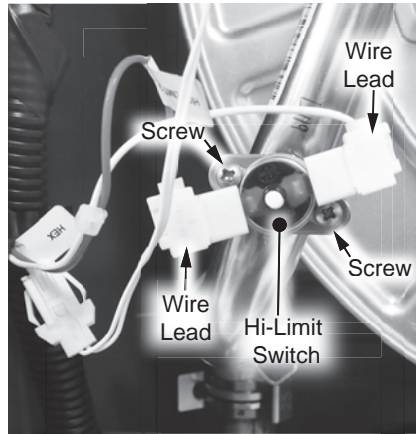

Figure 193 - Disconnect and remove hi-limit switch from HEX outlet tube
- 23** Locate the hi-limit switch installed to the HEX outlet tube as shown in Figure 193. Disconnect the two (2) wire leads from the hi-limit switch (labeled "HI LIMIT 2"). Remove the two (2) screws securing hi-limit switch to HEX outlet tube. Remove hi-limit switch and place aside with the two (2) screws in a safe place for reinstallation.